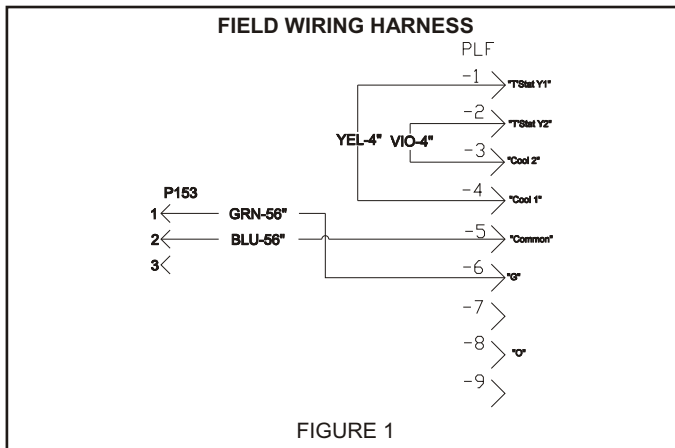

FIGURE 1
3. Locate the provided low voltage field wiring harness. This field harness should plug into the 9 pin economizer jack on one end the 3 pin controls plug from the ERV on the other. **See Figure 1. Refer to System Wiring on Page 5.**